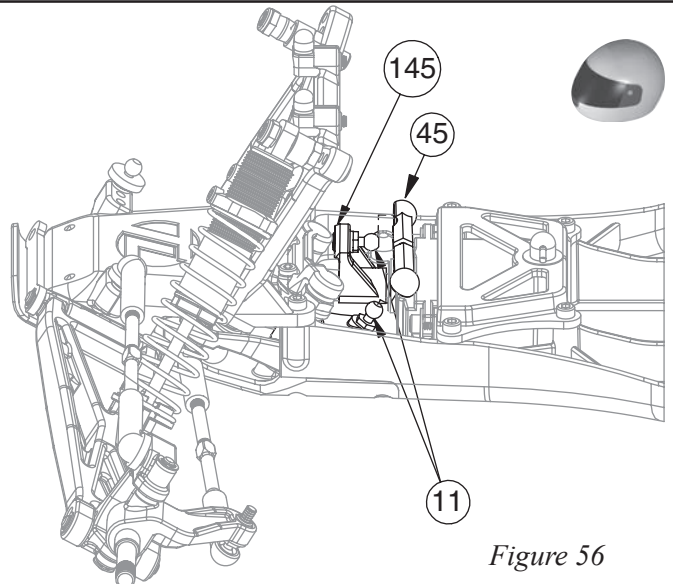

Figure 56
- ❑ 1. Attach one end of the Servo Link to the Ball Stud (11) in the Servo Arm (145) and the other to the Ball Stud in the Servo Saver as shown in Figure 56.